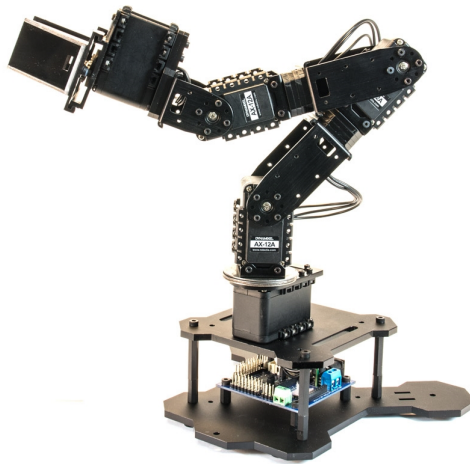

Figure 2.1: Phantom X Pincher Arm
The objective of this lab is to get yourself familiar with the hardware and capabilities of the Phantom X Pincher arm, shown in Figure 2.1 and manufactured by Trossen Robotics (<https://www.trossenrobotics.com>), which will be utilized for this project. During the course of this lab, you'll also get a sense of the motion and manipulation limitations of this arm and become familiar with the variables used to measure performance. A 3D interactive model of the same arm is provided by the manufacturer at this link: <https://www.trossenrobotics.com/p/PhantomX-Pincher-Robot-Arm.aspx>. The 3D model is built with the same dimensions as physical arm, and also allows you to measure the distances and angles at different points on the robot.
- (a) Mark all the joints and links in Figure 2.1 or any other image of the arm.